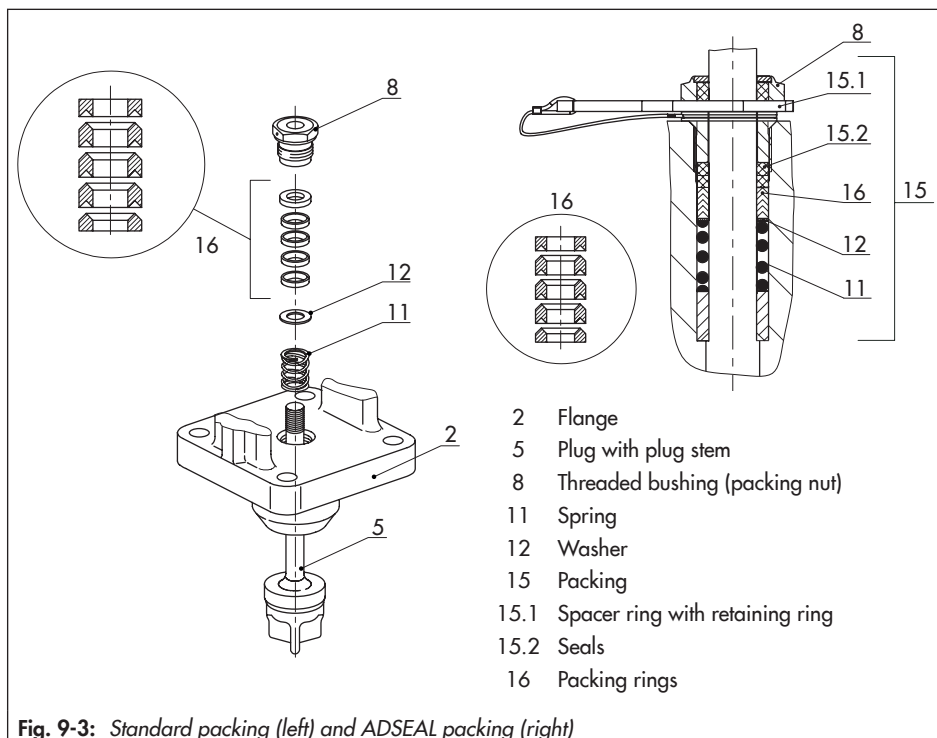

Fig. 9-3: Standard packing (left) and ADSEAL packing (right)
- Carefully slide the packing parts over the plug stem into the packing chamber using a suitable tool. Observe the proper sequence (see Fig. 9-3).
- Mixing valve <DN 32:** firmly press the plug (5) into the bottom seat (141).
- Spring (11)
- Washer (12)
- Packing rings (16)
- Insert the red spacer ring (15.1) between the threaded bushing (8) and retaining ring. See Fig. 9-3.
9. Carefully slide the packing parts over the plug stem extension into the packing chamber using a suitable tool. Observe the proper sequence (see Fig. 9-3).
10. Fasten the flange with nuts (33) and bolts (32). Observe tightening torques.
11. Screw in the threaded bushing (8) and tighten it. Observe tightening torques.
12. Loosely screw the lock nut (10) and stem connector nut (9) onto the plug stem.
4. Insert the red spacer ring (15.1) between the threaded bushing (8) and retaining ring. See Fig. 9-3.